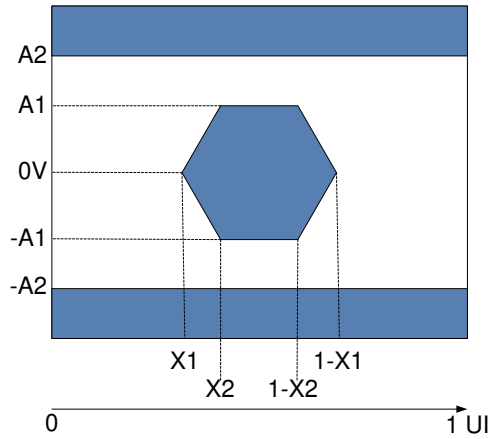

图 5-11. HSSI Eye Characteristics
(1) All power supply connections are required to operate the DMD: V_{DD}, V_{DDA}, V_{OFFSET}, V_{BIAS}, and V_{RESET}. All V_{SS} connections are required to operate the DMD.
(2) All voltage values are with respect to the ground pins (V_{SS}).
(3) To prevent excess current, the supply voltage delta | V_{DDA} - V_{DD} | must be less than the specified limit.
(4) To prevent excess current, the supply voltage delta | V_{BIAS} - V_{OFFSET} | must be less than the specified limit.
(5) Supply power dissipation based on three global resets in 200μs.
(6) LVC MOS input specifications are for pin DMD_DEN_ARSTZ.
(7) LVC MOS output specification is for pins LS_RDATA_A and LS_RDATA_B.
(8) Refer to Figure 5-11, Receiver Eye Mask (1e-12 BER).
(9) Defined in the *Recommended Operating Conditions*.